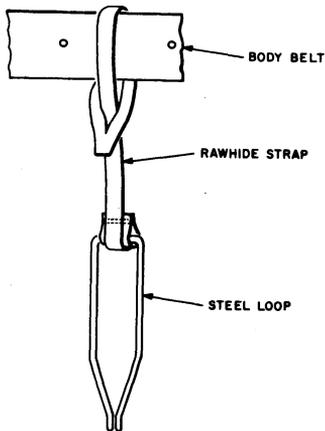

Fig. 1—B Handline Carrier
2.05 When necessary to carry a handline up a pole or ladder, secure one end of the handline to a B handline carrier (Fig. 1) attached to a body belt. If the B handline carrier is not available, double the end of the handline back on itself for a distance of approximately 1 foot and place this loop under the side or back of the body belt so it will be released under tension.